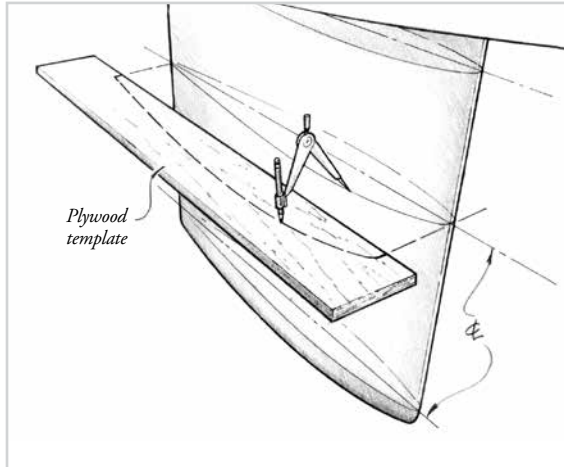

Figure 14-16 Prepare a rough plywood template scribed to within 1/4" of the profile you wish to transfer
2. Prepare a rough plywood template scribed to within 1/4" of the profile you wish to transfer (Figure 14-16). Cut the template from 3/8" or 1/2" plywood or particle board several inches longer than the foil. Prepare a method to clamp or brace the template in position against the surface.